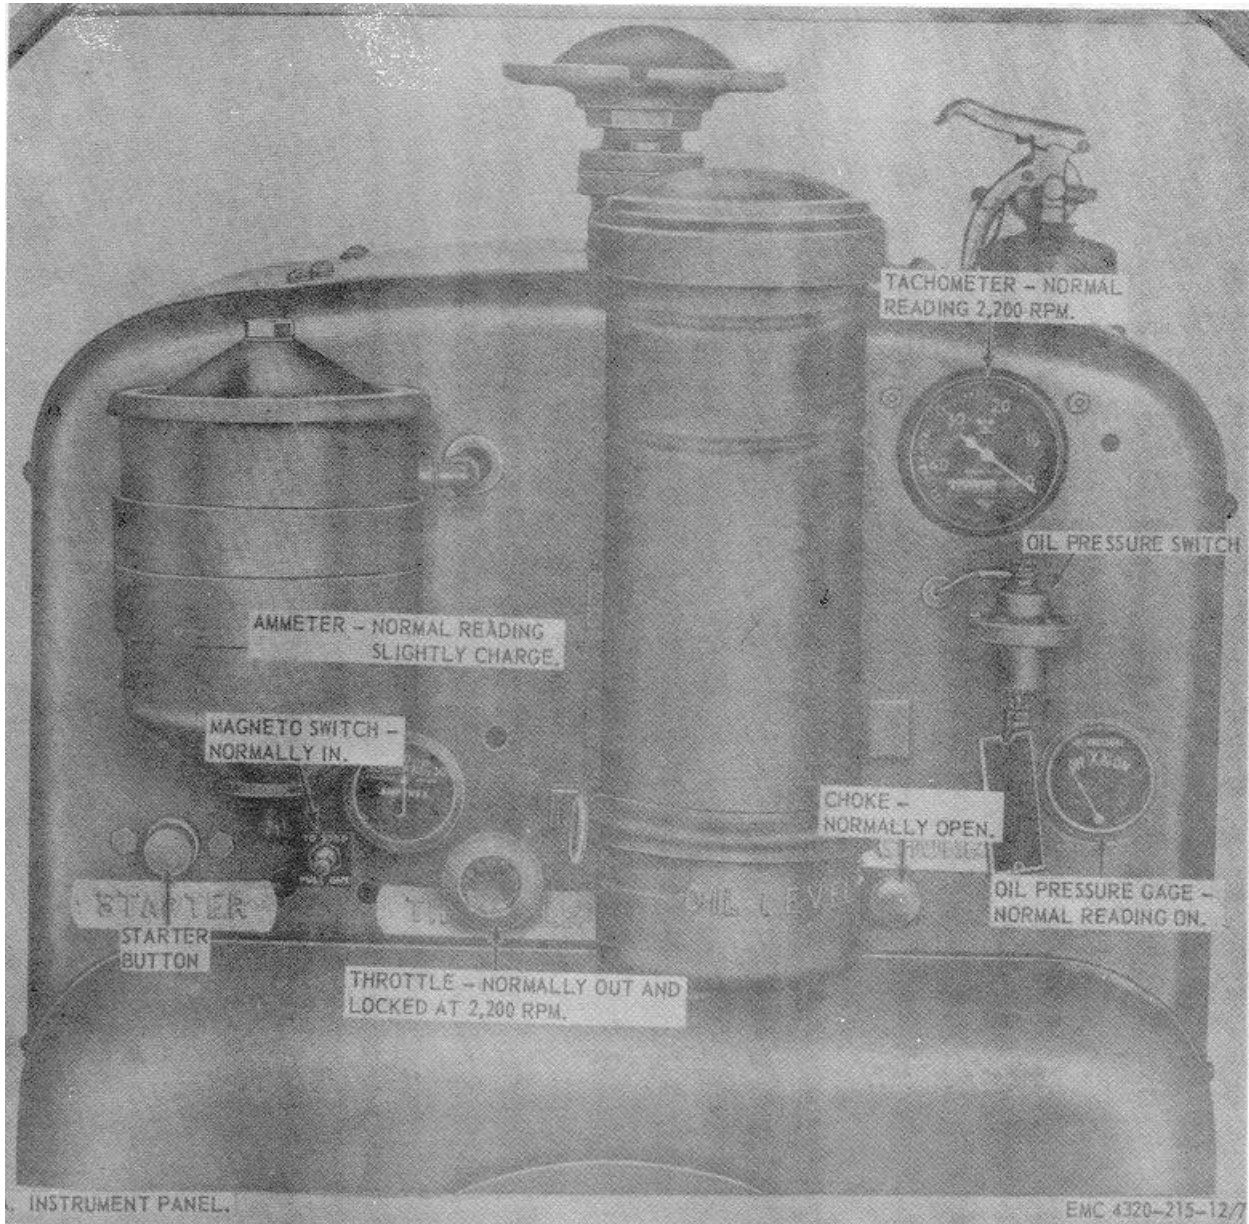

Figure 7. Engine starting instructions.
- d. Start the engine as shown by figure 7.